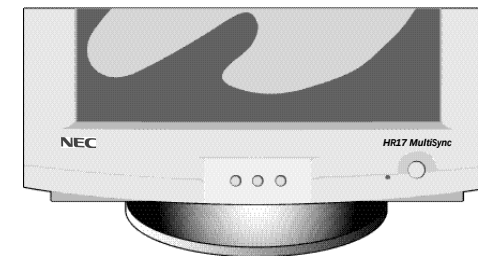

Figure C.1
- 5 Turn on the monitor (Figure C.1) and the computer.